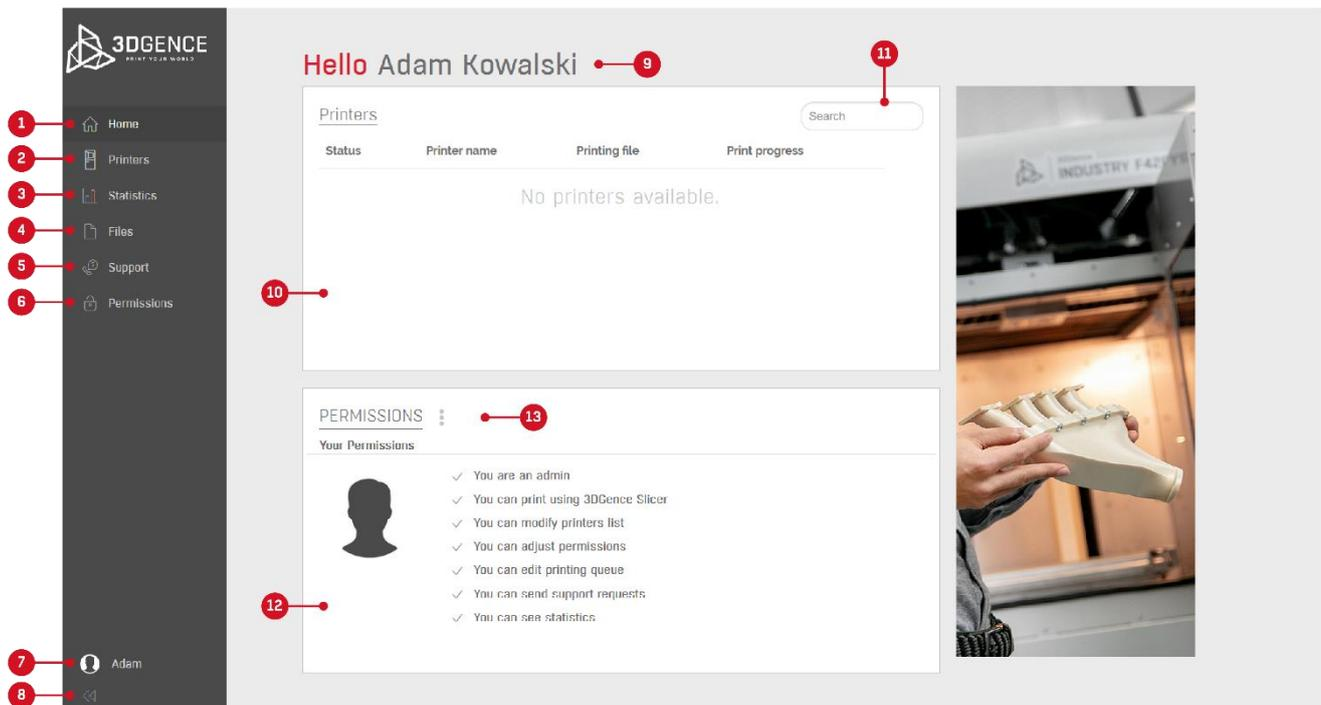

Fig. 5 3DGence CLOUD platform home screen
After logging in to the platform, the user is redirected to the home page (Fig. 5).
12. Multifunctional information window - can display information about permissions or one of the two types of abbreviated statistics. Fig. 5 below shows the permissions of the logged in user.